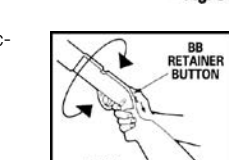

Fig. 5
- Pull the BB retainer button back (Fig. 5).
- With a hand twisting motion, shake and twist the airgun (See Fig. 5) to fill the visual magazine.